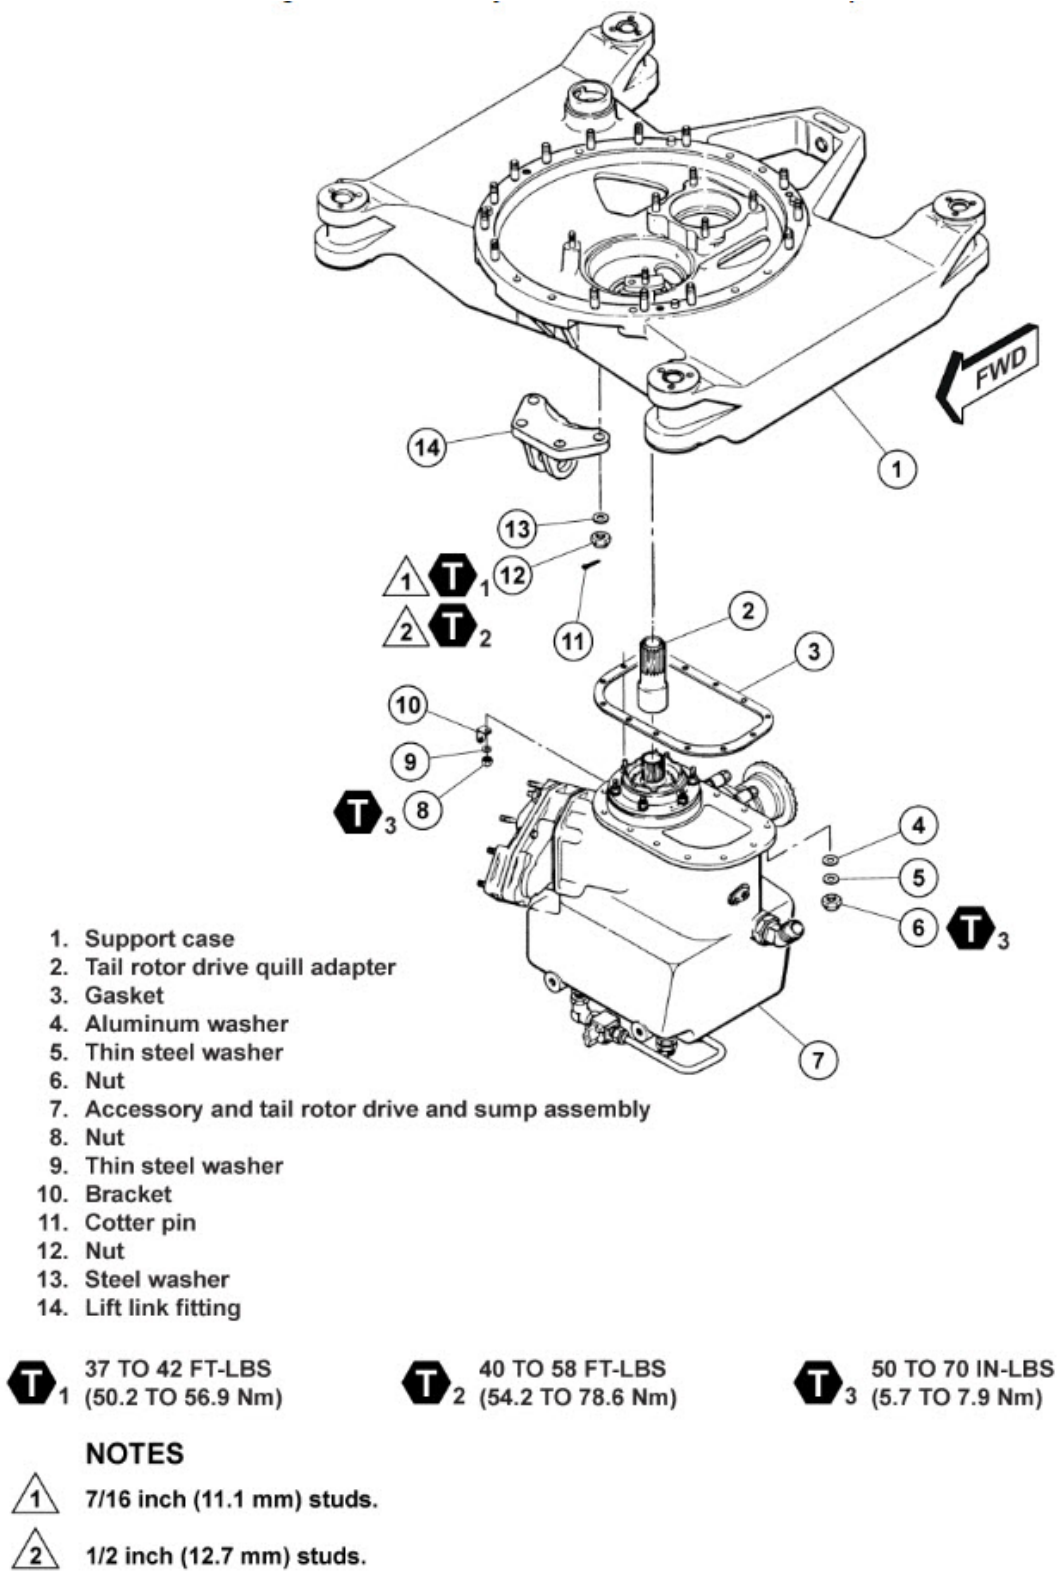

Figure 1. Accessory and tail rotor drive and sump assembly.
2. Remove the accessory and tail rotor drive and sump assembly (7, Figure 1) as follows:
- a. Remove the nut (8), thin steel washer (9), and bracket (10).
- b. Remove the twelve nuts (6) and the washers (4 and 5).
- c. Remove the accessory and tail rotor drive and sump assembly (7) from the support case (1). Use a plastic or a rawhide mallet to tap the sump assembly and separate it from the support case.
- d. Remove and discard the gasket (3).
- a. Install the Backlash Tool (212-040-001-3 GIF-1) on top of the accessory drive sump (22, Figure 1) and attach with three bolts. Tighten the clamp on the backlash tool to secure the pinion in the tail rotor drive pinion quill (10).
- b. Install the Backlash Tool (212-040-001-3 GIF-1) (Detail 3) on the tail rotor drive quill (16). Tighten the backlash tool to the clamp on the inner coupling of the tail rotor drive quill. Install the dial indicator support on one of the tail rotor drive quill studs. Install the dial indicator on the support and position it to contact the dowel pin in the backlash tool, Detail 3. Take the backlash reading at three places approximately 120° apart around the gear and record. Backlash on the tail rotor drive quill must be within 0.006 to 0.014 inch (0.15 to 0.36 mm). Measured
6. Install the accessory and tail rotor drive and sump assembly (7, Figure 1) as follows:
- a. If previously removed, put the tail rotor drive quill adapter (2) in the accessory drive quill in the support case (1).
- b. Put the new gasket (3) on the support case (1).
- c. Put the accessory and tail rotor drive and sump assembly (7) on the support case (1) with the tail rotor drive quill on the aft side of the case. Secure the sump with aluminum washers (4) next to the sump, thin steel washers (5), and nuts (6) on each of the 13 studs with one exception; omit the aluminum washer and install the bracket (10), thin steel washer (9), and nut (8), on the stud directly above the magnetic chip detector in the sump. Torque the nuts (6 and 8) 50 to 70 inch-pounds (5.65 to 7.91 Nm).